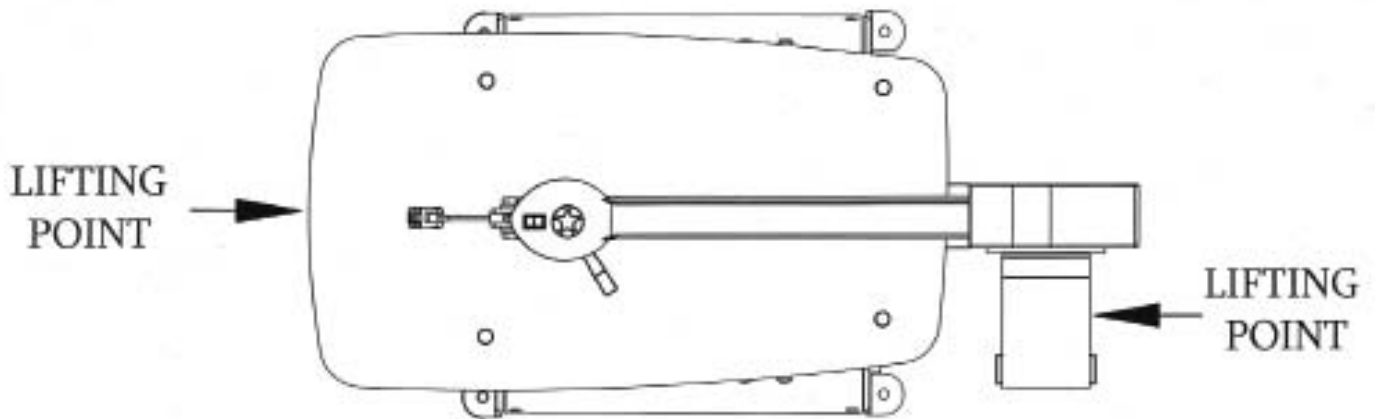

Fig. 16
4. To begin cutting follow the same steps as described in "Basic 90° straight or curved cuts" section on page 11 of this manual. Fig. 16 shows the scroll saw in position for bevel cutting.